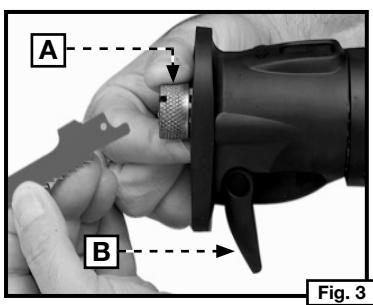

Fig. 3
**NOTE:** You can temporarily remove the keyless Quik-Change™ pivoting guide shoe to make blade installation easier. Release the locking lever (B) Fig. 3 to remove (see “Pivoting Guide Shoe Adjustment with keyless Quik-Change™” section of this manual).